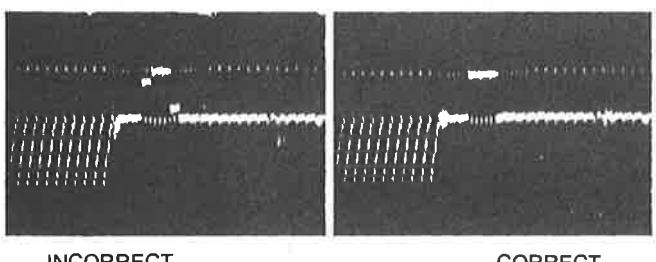

Fig. 25—Vertical Detail Level
4. Adjust R3317 so that the pulse level matches before and after transition from vertical equalizing pulses to vertical sync pulses see Figs. 25 & 27.